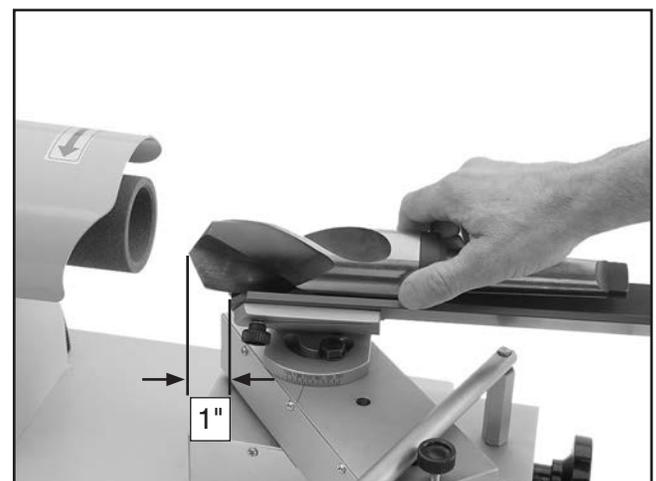

Figure 20. Correctly positioning the bit on the carrier.
7. Position the drill bit so that it extends approximately 1" beyond the carrier, as shown in **Figure 20**.